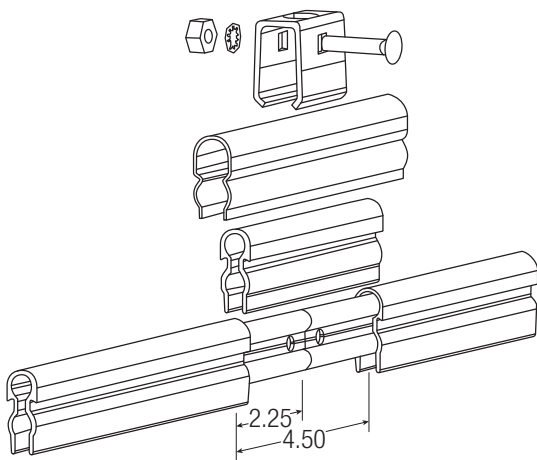

Figure: 9-9
- A. Snap joint cover over all 8-bar joints. See **Figure 9-9**.